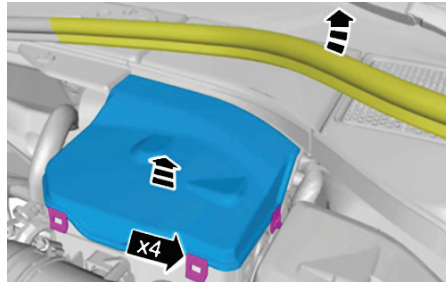

Fig. 1 Battery cover removal
4. Position trunk weather-strip aside, Fig. 1.
5. Unclip battery cover and remove, Fig. 1.
6. Install battery cover and clip securely, Fig. 1.
7. Reposition trunk weather-strip, Fig. 1.